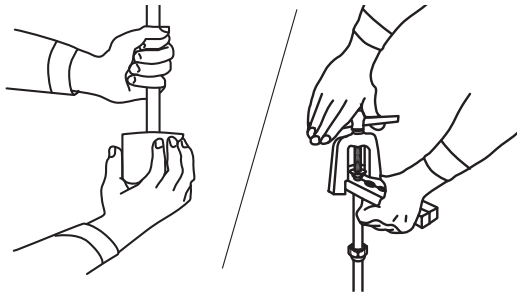

Fig. 26 - Removing Burrs
- c. make the flares to the pipe ends with the proper flaring too. The flare end must not have any burrs or imperfections. the flared walls must be uniform. See Fig. 26 and Fig. 27.